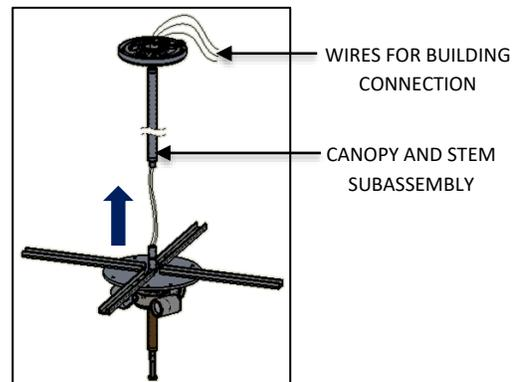
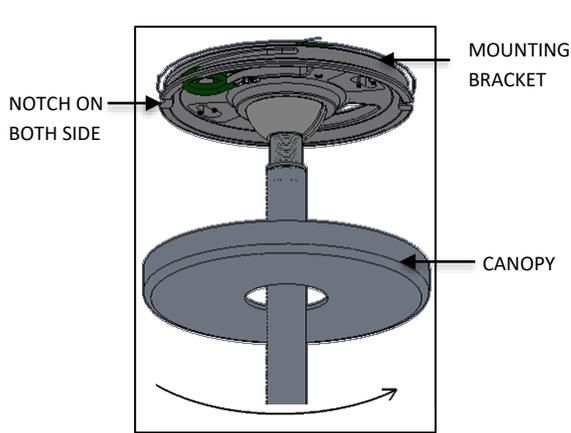

FIG. 15 – CANOPY AND STEM INSTALLATION
FIG. 20 – CANOPY INSTALLATION
5. Feed the WIRES through the CANOPY and STEM SUBASSEMBLY and pull it from the top to give connection to BUILDING SUPPLY as shown below in FIG. 15 and then assemble STEM ASSEMBLY to REFLECTOR SUBASSEMBLY
9. Raise the CANOPY and tighten onto the MOUNTING BRACKET by lining the SPRING TABS (shown in FIG.15) up the NOTCHES in the MOUNTING BRACKET and rotating 90 degrees clockwise as shown in FIG. 20.